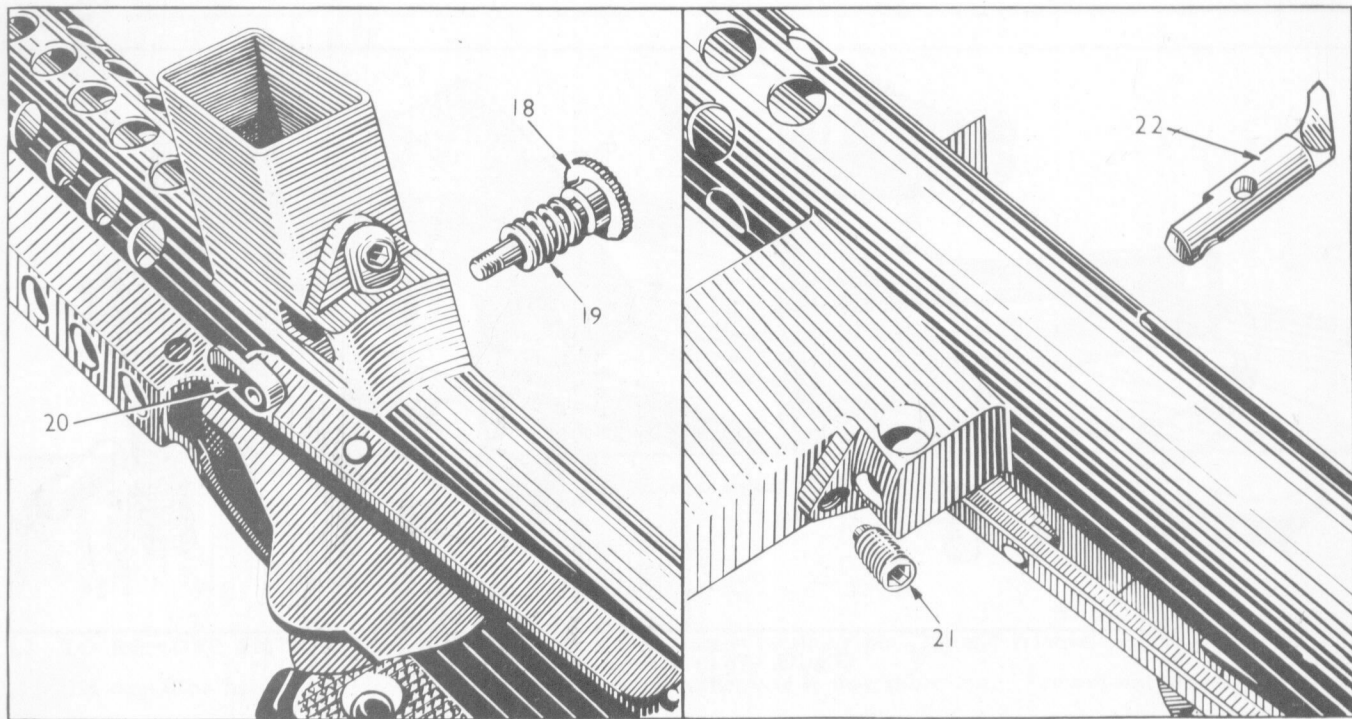

Fig. 12. To remove ejector
**9.0 ADVANCED STRIPPING AND ASSEMBLY** (Figs. 12, 13, 14, 15 and 16). **STRIPPING.**
**9.1 TO REMOVE EJECTOR** (Fig. 12). Using large screwdriver unscrew magazine catch screw (18), remove spring (19) and magazine catch (20). Using  $\frac{1}{8}$ " Allen key remove ejector retaining screw (21). Tap out ejector (22) and remove through ejection opening in the body.